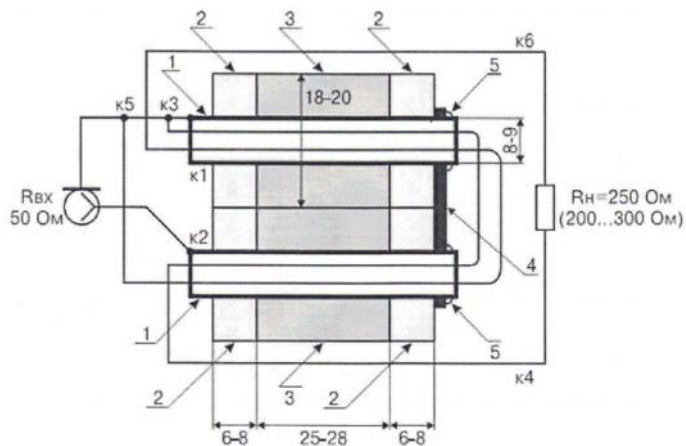

Figure 1 Design of the Transformer with Ratio 1: 5 (50/250 Ohm)
Figure 1 shows design of the transformer with ratio 1: 5 (50/250 Ohm). Main core of the transformer is a ferrite tube taken from an RFI filter that was placed on control wires of old CRT monitor. Such tube may have OD 18... 20- mm, ID 8... 9- mm, and length 25- 28- mm. Permeability of the core is near 800- 1000.
Length ferrite core for the transformer should be 37... 44- mm. So, two ferrite rings with equal to the tube OD and ID placed from the both sides of the core. First winding of the transformer (k1k2 at **Figure 1**) consist of two copper tubes (pos.1) that are inserted into the ferrite cores. The tubes should have a minimal gap between the cores. The tubes are shorted by a jumper (pos.4). The jumper made of a copper strip. The jumper is soldered (pos.5) to the copper tubes. Second winding (k3k4 + k5k6) made by teflon wire in diameter 1.5- 2.0 mm (15... 12 AWG).